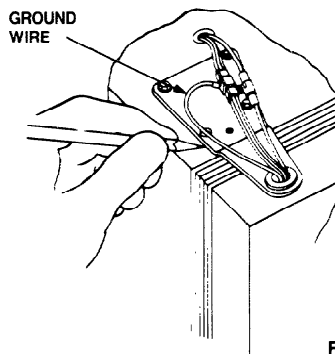

FIGURE 22
7. Mark the location of the hinges with a pencil on the painted cabinet prior to removing hinge. See Figure 22.